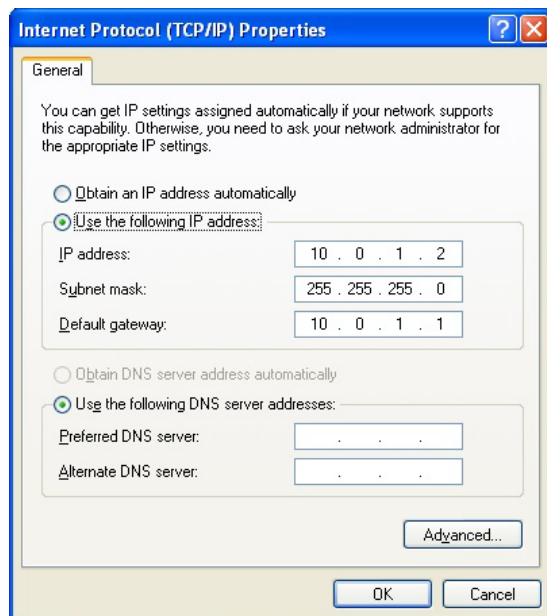

Figure 21 — TCP/IP Properties
8. Double-click **Internet Protocol Version 4 (TCP/IPv4)**. The **Internet Protocol (TCP/IP) Properties** window opens. See Figure 21.